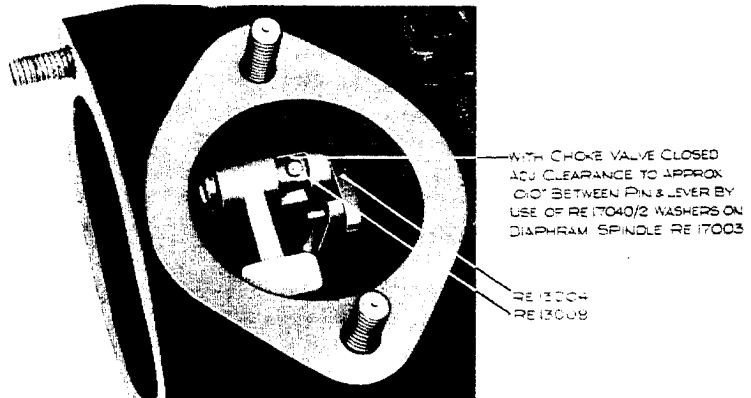
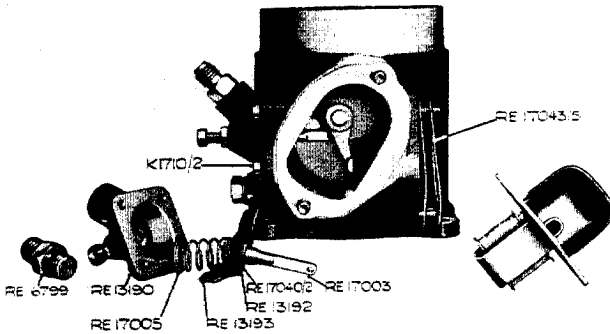

FIG. 3. PICK-UP LEVER CLEARANCE.
FIG.4. CHOKE VALVE DISMANTLED.
2. With the choke valve in the closed position, a small radial clearance, .010", is necessary between RE.13008 pin and the pick-up lever RE.13204, Fig.3. This is obtained by adjusting the length of RE.17003 rod, with the adjusting washers RE.17040/2, Fig. 4.